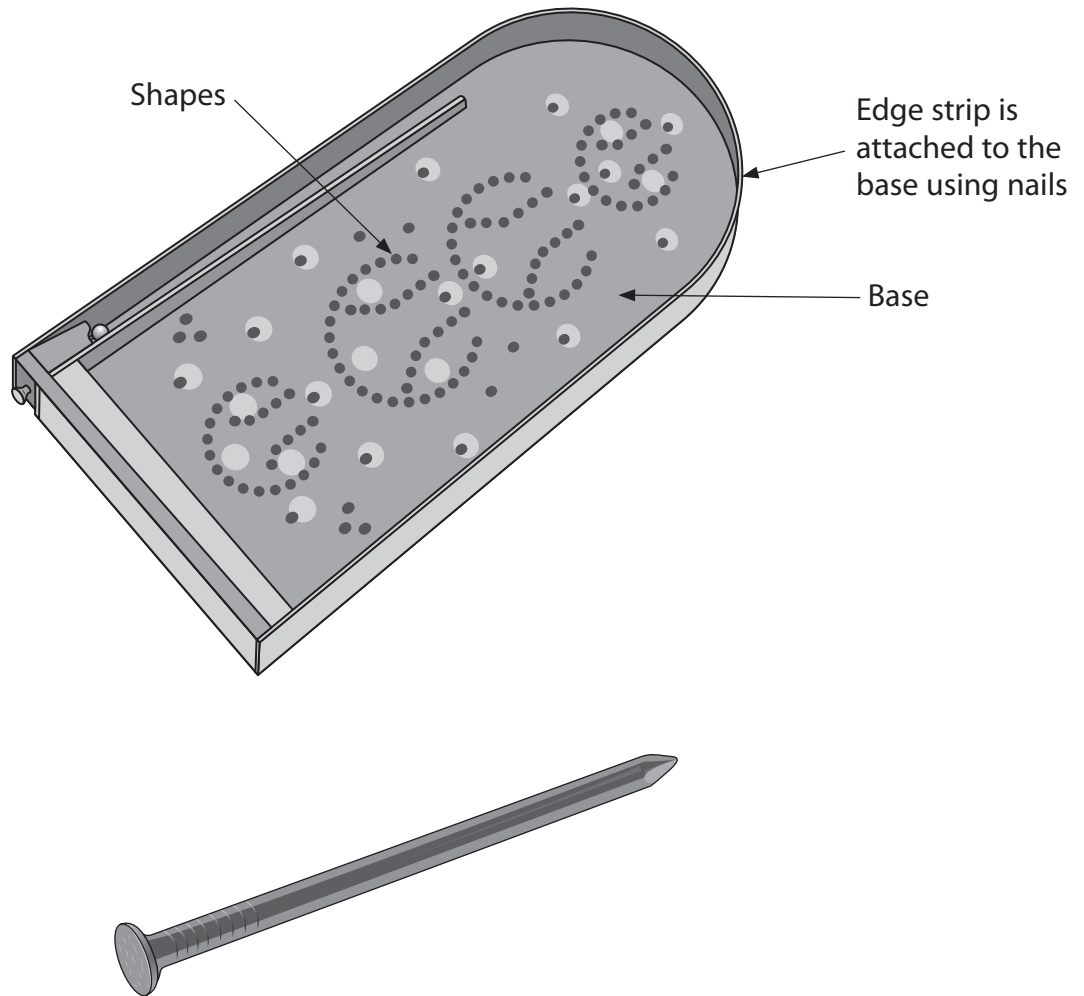

Figure 10
- 7 Figure 10 shows a table top game and one of the nails used to assemble it.
- (a) Name the specific type of nail shown in Figure 10.